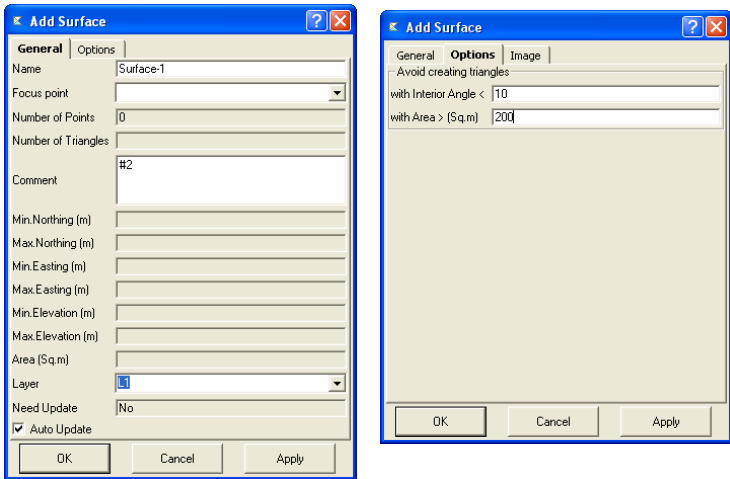

Figure 9-3. Create a New Surface
2. In the *General* tab of the **Add Surface** dialog box, enter a name of the surface being created, select the desired layer for the surface, and enter necessary notes (Figure 9-3 on page 9-3).
The parameters set in the *Option* tab will define the number of points and triangles of the Surface (Figure 9-3).